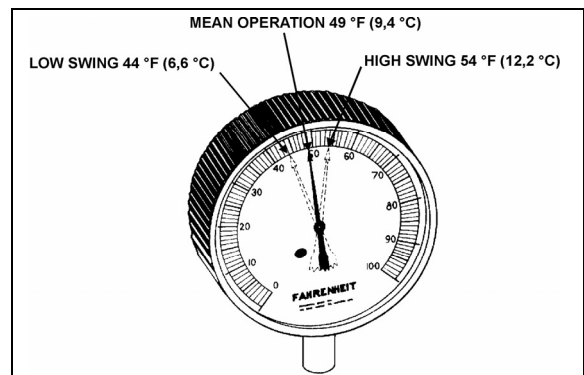

FIGURE 39: HIGH & LOW SWING TEMPERATURE AT REMOTE BULB 22047
6. Check approximately 5 readings of pressure at 2-minute intervals and convert to temperature using the temperatures & pressures table (page 38). Likewise check the temperature reading at the remote bulb at the same 2-minute intervals and record the low and high swing readings of the needle (refer to Fig. 39).
Example of readings taken at fig. 39: